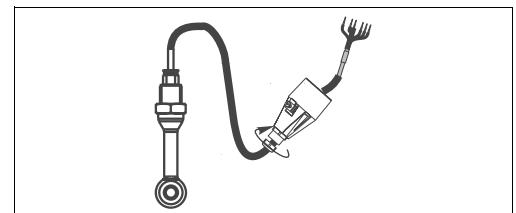

Fig. 21: Cable threading through
2. Loosen the Pg armoured thread on the connection hood and thread the cable through (Fig. 21).